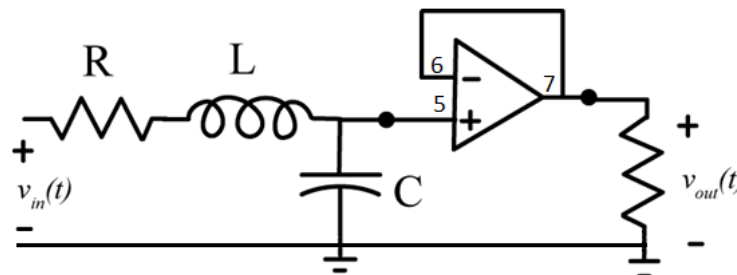

Figure 18: Second order system plant
3. Modify the circuit so that the plant and isolation amplifier now look like Figure 18. The resistor is $1\ \text{k}\Omega$, the inductor is $33\ \text{mH}$ and the capacitor is $0.01\ \mu\text{F}$ (103).